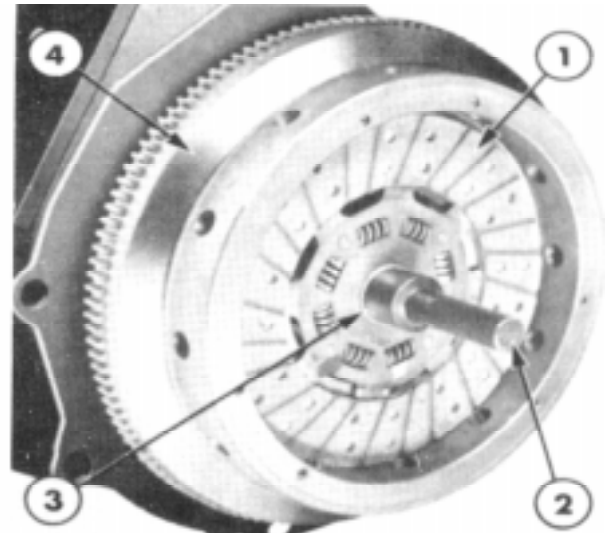

Figure 21
2. Position the transmission clutch disc on the flywheel with the longer hub protrusion facing towards the flywheel. Use Locator, Tool No. SW13-1, to centralise the disc, Figure 21.